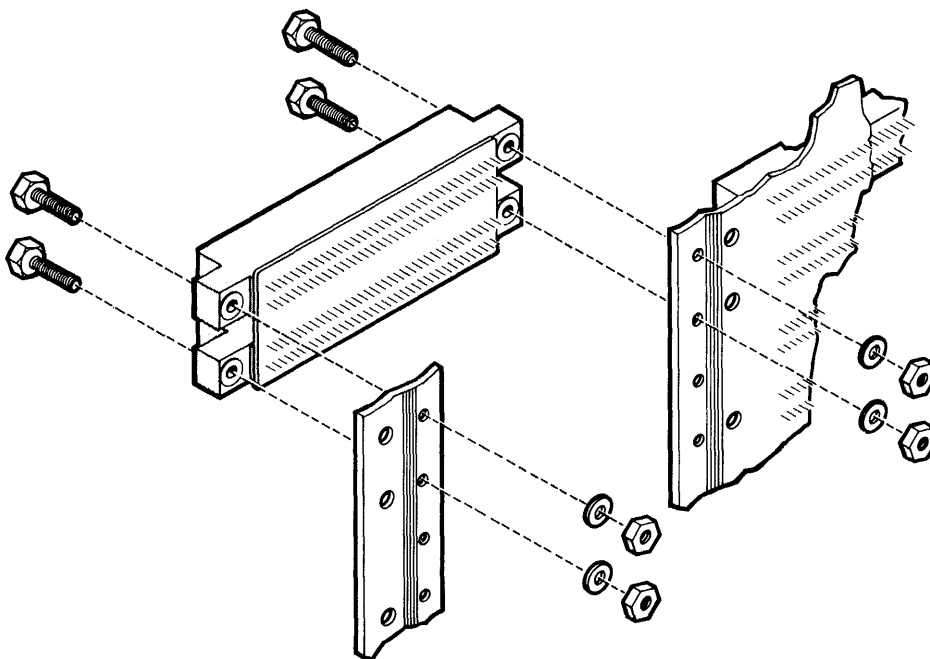

Figure 3. Dual Auxiliary Connector Mounting to Backplane
6. It is recommended that you now mount the dual auxiliary connector adjacent to the J3 and J4 connectors on the cardcage backplane. (See figure 3.) Before you tighten the connector to the backplane, insert the controller boards into the backplane connectors and the dual auxiliary connector to ensure the connectors are aligned properly. This is a lengthy process requiring removal of the Development System's power supply. If you want, you can omit this step and fit the dual auxiliary connector onto the controller boards as the boards are installed in the card cage. (If you are installing the Model 740 Hard Disk Subsystem concurrently with the Upgrade Kit, you may mount its dual auxiliary connector to the backplane at the same time.) It is more convenient to leave the dual auxiliary connector free of the backplane but, if you do, you must remove and insert the two controller boards together, as a set, and not separately.